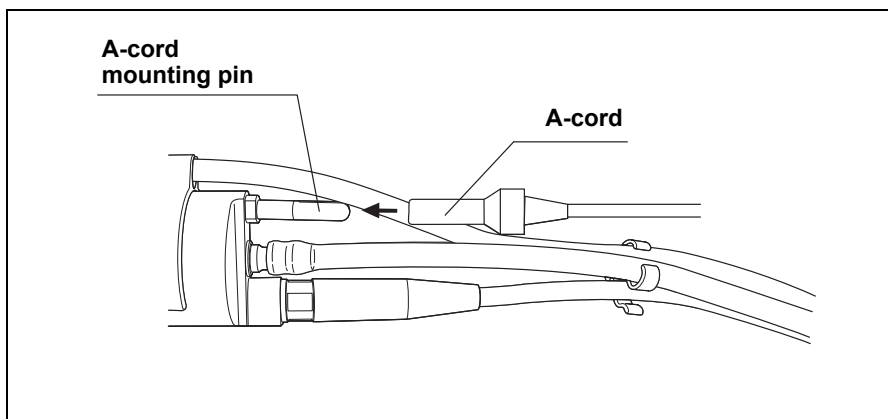

Figure 4.21
2. Attach the A-cord (A0355, A0358) to the A-cord mounting pin on the transducer (SonoSurg-T2L-GE/SonoSurg-T2L-GE-C), and confirm that it is secure (see Figure 4.21).